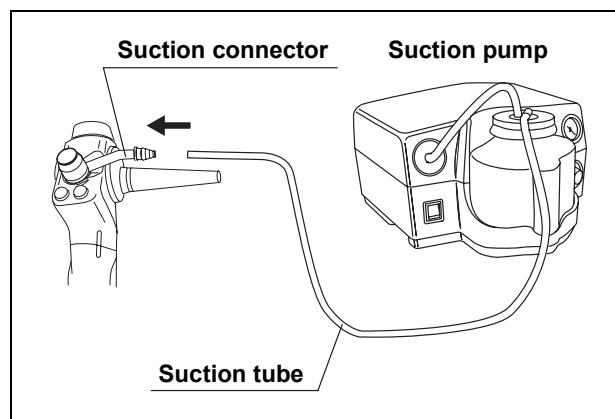

Figure 3.10
6. Connect the suction tube from the suction pump to the suction connector on the suction valve (see Figure 3.10).